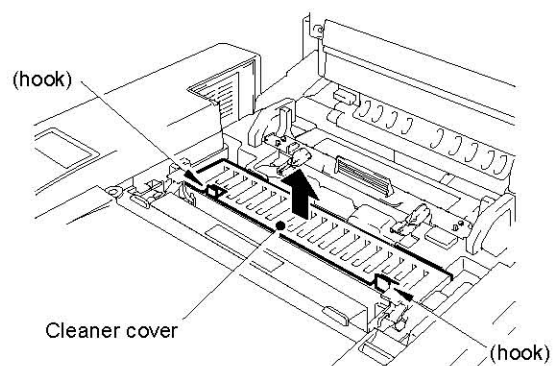

Fig. 6-25
- (2) Holding the handle located on the top of the drum cleaner, push it backwards.
- (3) Remove the drum cleaner by lifting it out. (Fig.6-25)